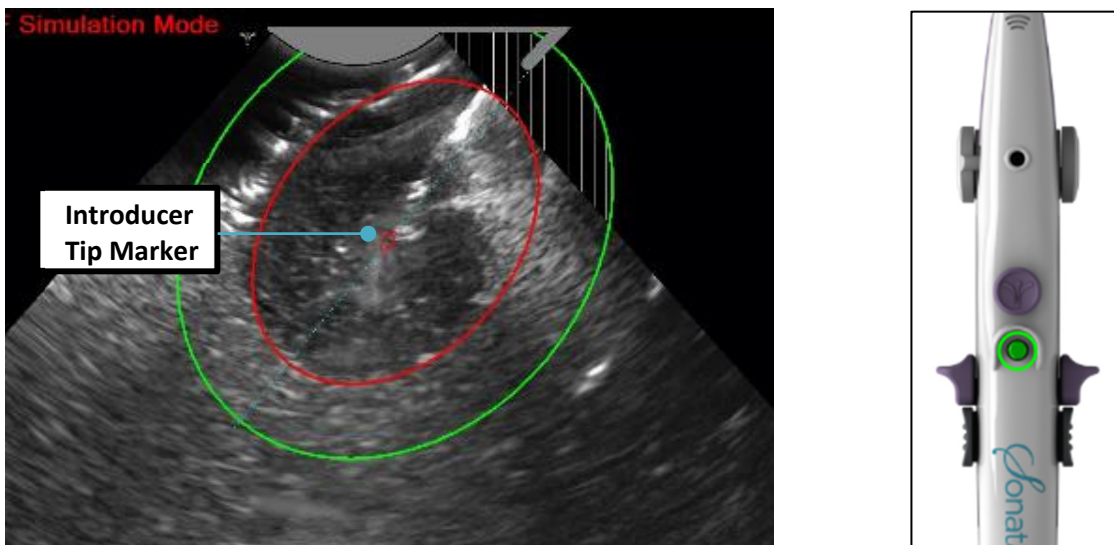

Figure 4-20. Press Confirm Button after aligning SMART Guide to Introducer Tip. The graphic changes to the Introducer Tip Marker (red diamond).
- The Introducer Tip Alignment Guide will change to the Introducer Tip Marker (red diamond) when the Confirm Button is pressed, see Figure 4-20.